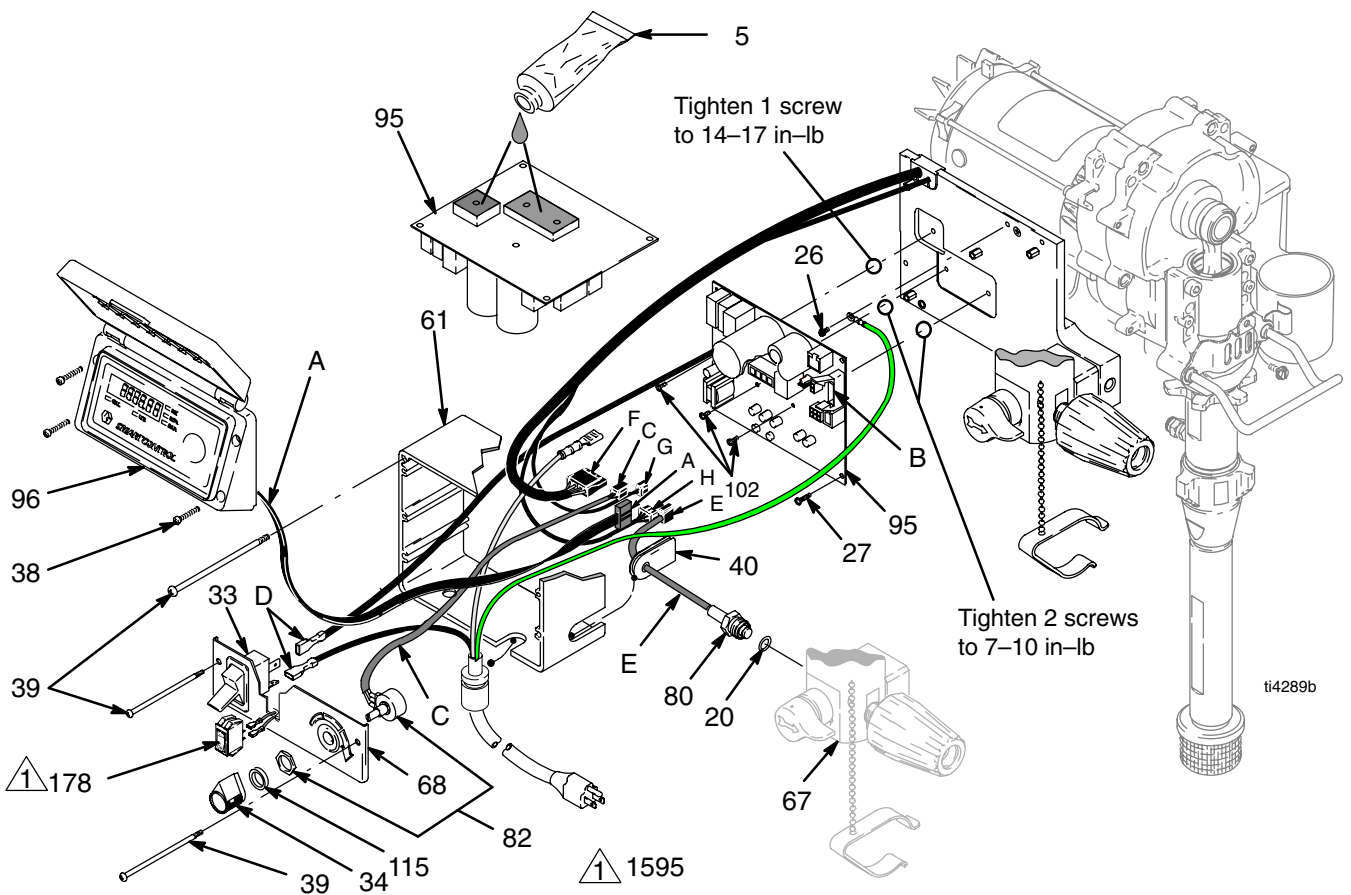

Fig. 3
- Fig. 3. Remove four screws (38) and cover (96).
- Disconnect display connector (A) from motor control board (95).
- Remove bottom two screws (39) and allow control panel (68) to hang down freely.
- Disconnect control board power lead(s) (D) from ON/OFF switch (33) and motor control board (95).
- Disconnect potentiometer connector (C) from motor control board.
- Disconnect 15/20A switch (178) (1595).
- Disconnect transducer connector (E) from motor control board.
- Remove top two screws (39) and control box (61).
- Remove five screws (27), three screws (102) and motor control board.
- Disconnect potentiometer connector (C) from motor control board (95).
- Remove knob (34) with a hex wrench.
- Remove gasket (115), nut and potentiometer (82) from control panel (68).
- Fig. 3. Apply small amount of thermal compound 110009 (5) to shaded component areas on rear of motor control board (95).
- Install motor control board (95) with five screws (27). Torque to 10–12 in-lb (1.13 – 1.35 N·m). Install and torque three screws (102) to values shown in Fig 3.
- Install control box (61) with top two screws (39).
- Connect transducer connector (E) to motor control board.
- Connect 15/20A switch (178) (1595).
- Connect motor control board power lead(s) (D) to ON/OFF switch (33).
- Connect potentiometer connector (C) to motor control board.
- Install control panel (68) with two screws (39) .
- Connect display connector (A) to motor control board (95).
- Install cover (96) with four screws (38).
2. Fig. 3. Remove four screws (38) and cover (96).
3. Disconnect transducer connector (E) from motor control board (95).
4. Disconnect potentiometer connector (C) from motor control board.
5. Remove four screws (39) and control box (61). Allow control panel to hang down freely.
6. Remove transducer (86) and o-ring (20) from filter base (67).
7. Remove grommet (40) from transducer and save for reuse.